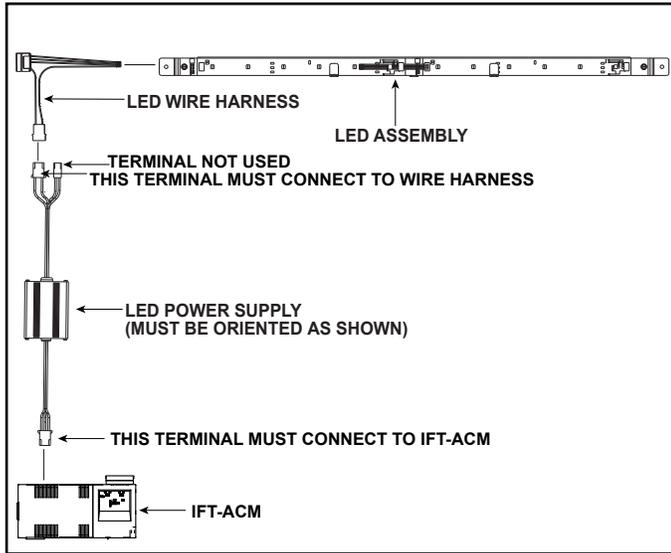

Figure 2. LED Wiring Diagram
NOTICE: Prior to performing Step 6 and Step 7, ensure the LED power supply is oriented as shown in Figure 2. Damage to LED power supply will occur if installed incorrectly.
6. Locate and install the LED power supply. Remove the rubber plug from the connector on the IFT-ACM labelled "LIGHTS" and insert the 120 VAC connector plug that is attached to the LED power supply. This connector has a black, white and green wire attached. See Figure 2.
7. Connect the LED assembly to the LED wire harness. Next, connect the LED wire harness to the larger connector on the LED power supply. The smaller connector is not used. See Figure 2.